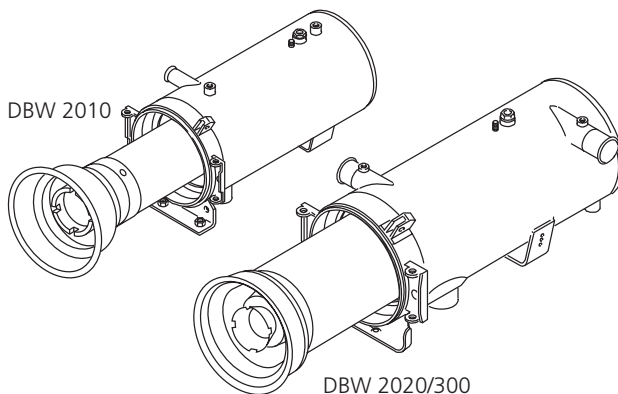

Figure 50: Burner tube replacement
2. Withdraw combustion chamber (Fig. 50) from heat exchanger and remove.